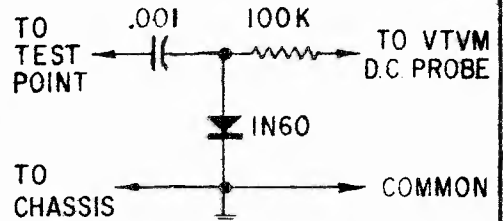

Figure 6.—Diode Detector
- Note: A diode detector, shown in Figure 6, may be used with the VTVM in place of a commercial RF probe.